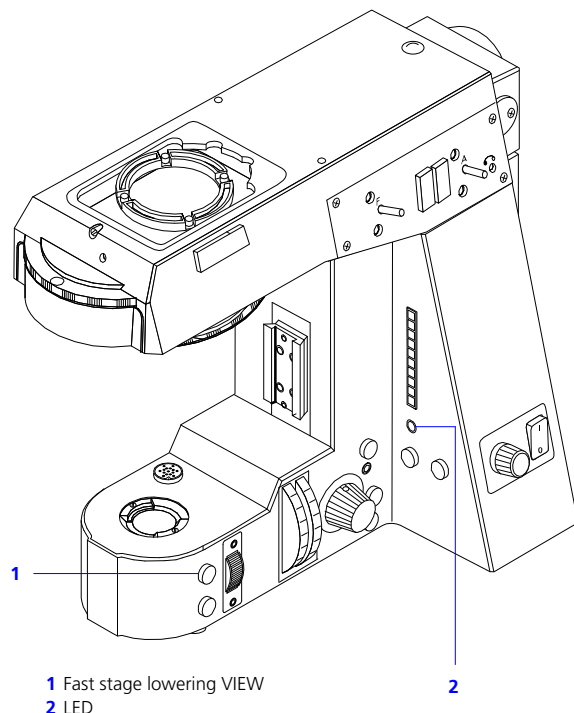

Fig. 12 Motorized stand
- Press and hold (> 3 s) both upper switches for fast stage lowering (Fig. 12/1 left and right) at the same time until the orange LED display (Fig. 12/2) lights up briefly. This activates the so-called "learning mode" with the dry objective mentioned above as reference system.